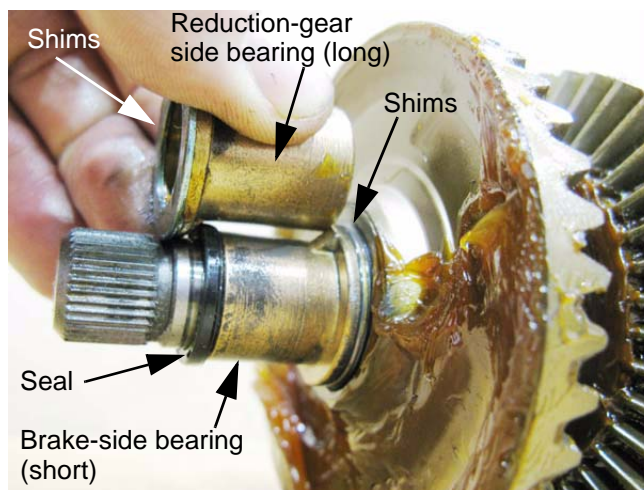

Figure 5.78
- 19e. Install new bevel gear shaft bearings, with their flanges facing the shims. See Figure 5.78.